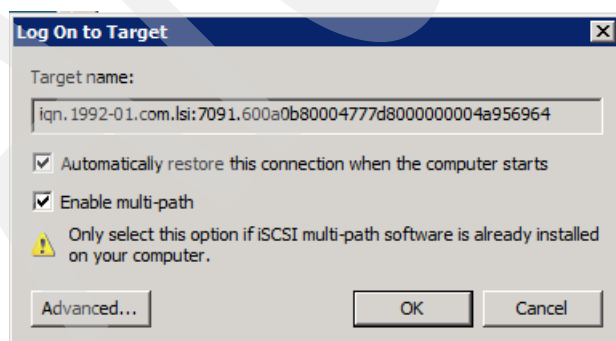

Figure 3-31 Log on to target
7. After identifying the DS Storage System target name, select it and click the **Log on** option to further define the connections. The window in Figure 3-31 is displayed.